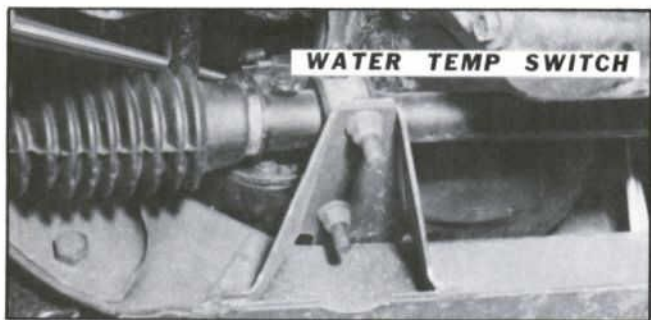

Figure 5
- 6. Converter Housing Bolts** ■ To gain accessibility to the bolts, use a long extension to reach them from behind the crossmember. **CAUTION:** Be careful not to damage the water temperature sending switch. See Figure 5 for location.